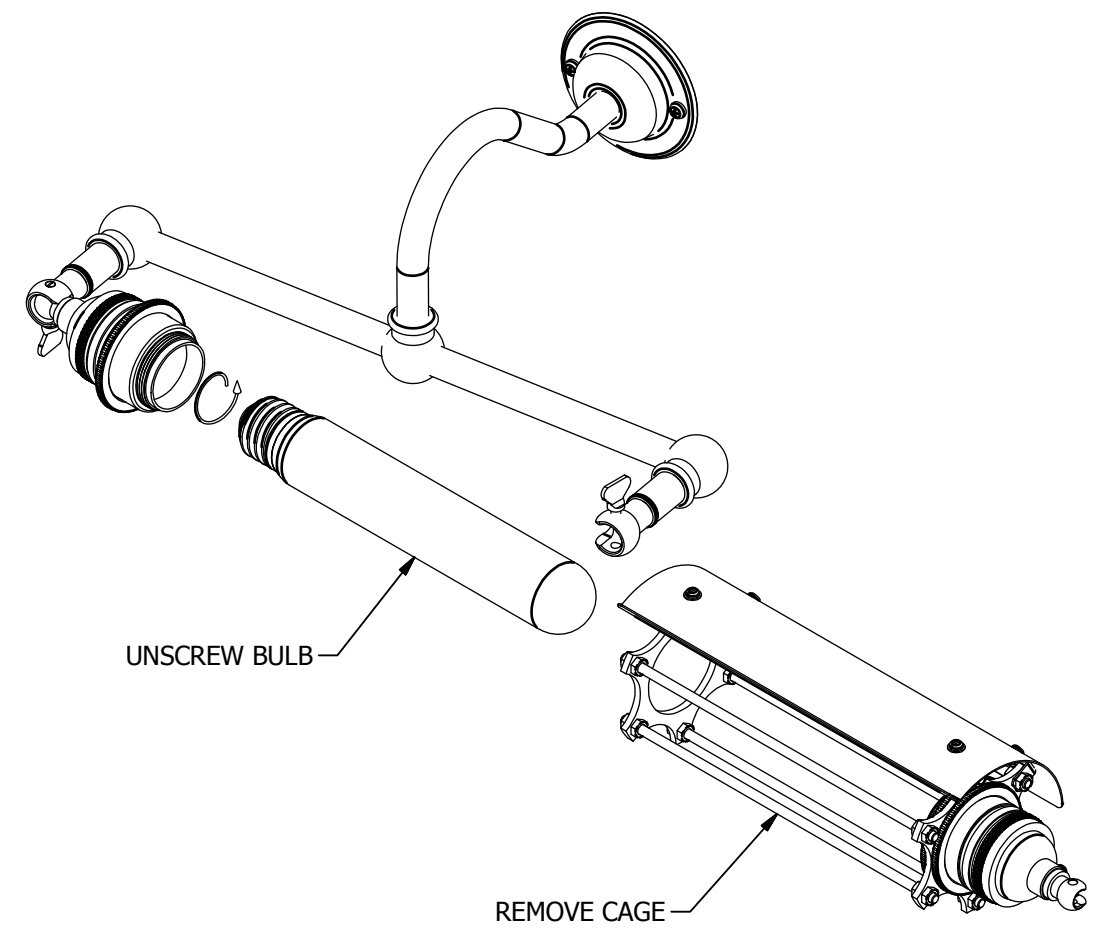

Figure 3.
- 5) Slide cage assembly over and away from bulb. (Figure 3.)